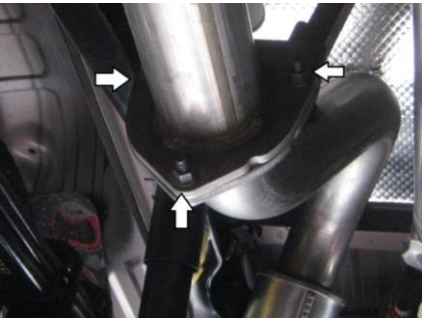

Figure 1
2. Loosen the three (3) nuts securing the extension pipe flange to the over-axle pipe. **Refer to Figure 1.**
4. Loosen the three (3) nuts securing the extension pipe to the flange directly behind the exhaust filter and remove the extension pipe.